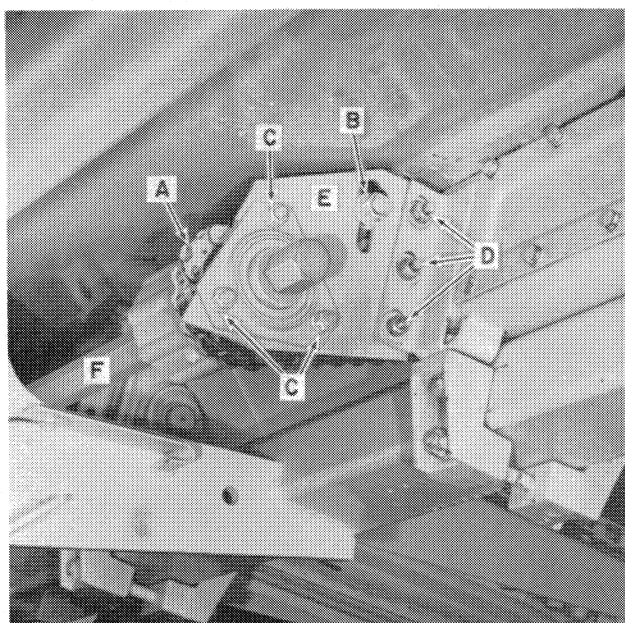
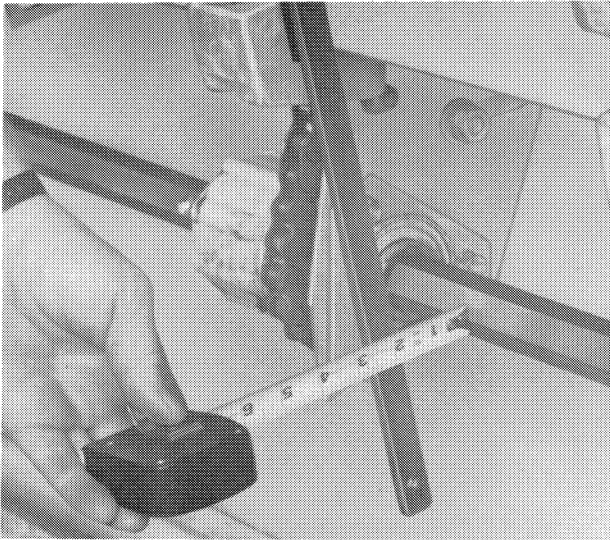

Figure 2-31
Figure 2-33
1. Install the slip clutch assembly on the row unit drive shaft, F, Figure 2-31.
5. Install plate, E, Figure 2-31, attaching row unit drive shaft, F, to the row unit assembly. Use the original hardware. Snug hardware, C, securing the bearing flangettes to mount plate, E. Tighten hardware, D, only finger tight.
Measure from the header beam to the shaft, as shown in Figures 2-33 and 2-34, at the fixed bearing in the side sheet. Adjust the other end of the shaft to match those measurements. Tighten bolts, D, Figure 2-31.